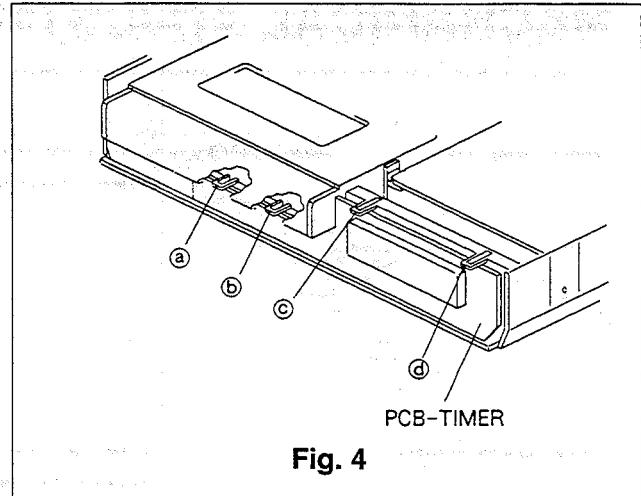

Fig. 4
- B. Unfasten four stoppers (@~④), and remove the PCB-TIMER, as shown in Fig. 4.